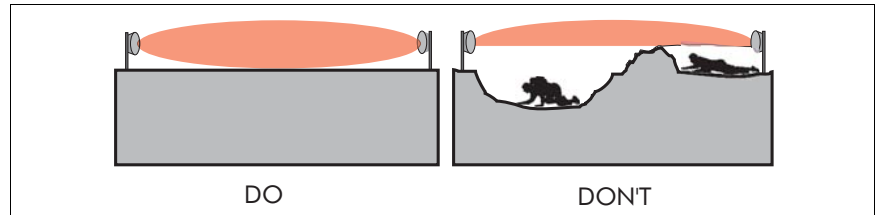

Figure a-7 Do's and Don'ts of installation terrain
- DON'T use bistatic microwave sensors over drainage ditches, hills, or ungraded areas where there is more than a 15 cm (6 in.) change in terrain over the full length of the zone. Microwave detection is not terrain-following (see Figure a-7).